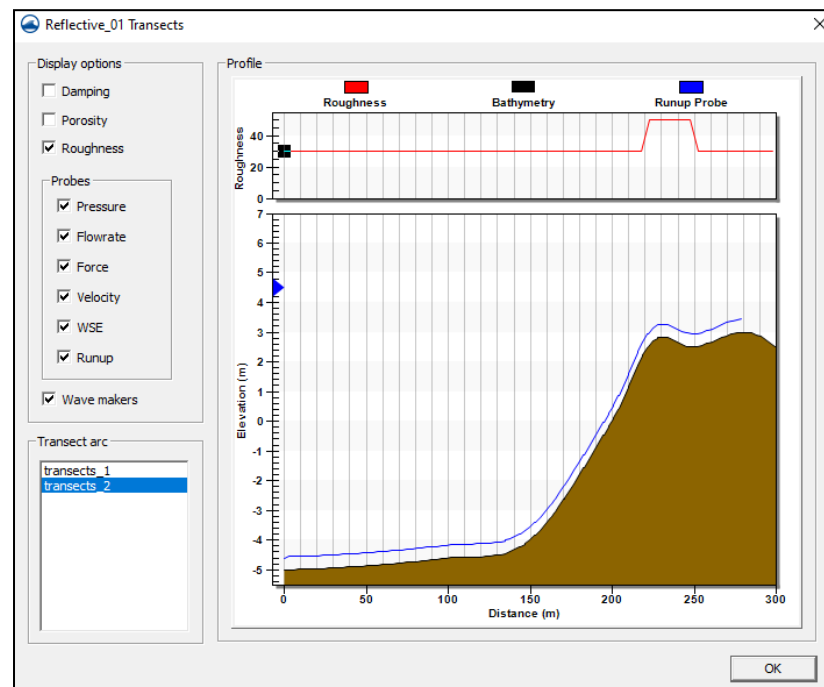

Figure 9 Changing roughness along transects_2
- In the *Transect arc* section, select “transects_2” and note the plot along the top of the *Profile* section showing the changing Chezy roughness value (Figure 9).